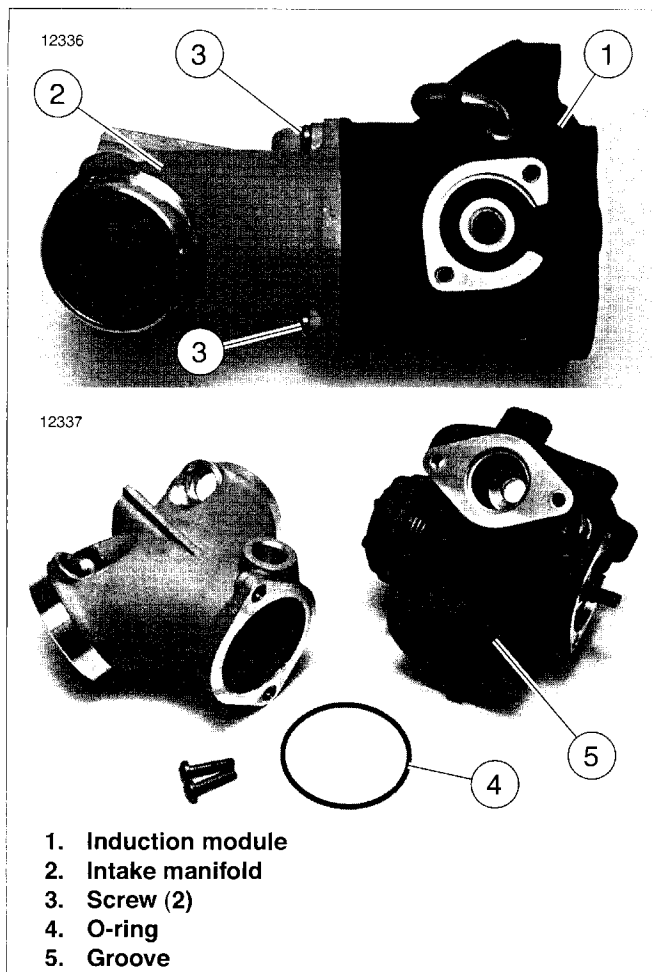

Figure 4-45. Induction Module Assembly
- a. TP Sensor. See 4.7 THROTTLE POSITION (TP) SENSOR.
4. See Figure 4-45. Remove two screws (3) to separate induction module (1) from intake manifold (2). Discard o-ring (4).
- See Figure 4-45. Place **new** O-ring (4) into groove (5) in induction module (1) mating surface.
- Mate induction module to intake manifold (2). Secure with two screws (3). Tighten screws to **35 in-lbs** (4.0 Nm).
- TP Sensor. See 4.7 THROTTLE POSITION (TP) SENSOR.